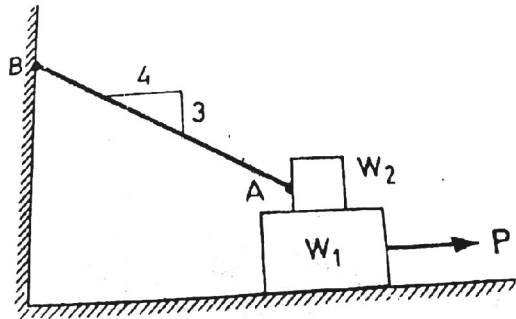

Figure 2.4
4. A block of weight $W_1 = 900\text{N}$ rests on the horizontal surface and supports on top of it another block of weight $W_2 = 225\text{N}$. The block W_2 is attached to a vertical wall by an inclined string AB. Find the magnitude of the horizontal force P applied to the lower block that will be necessary for the slipping to impend as shown in Figure 2.4. The coefficient of friction for all contact surfaces is 0.3.